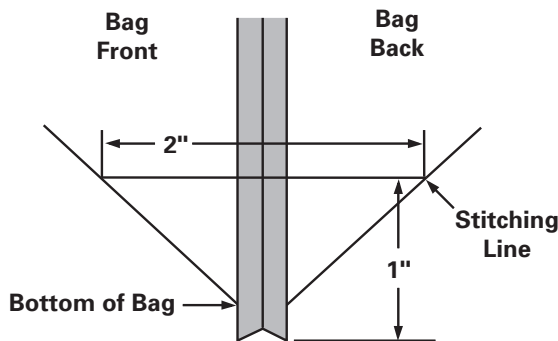

Fig. 7-5
- To make each box corner for the bottom of the bag, make sure the side seam is centered on the flattened corner. Measure up 1 inch (2.5 cm) from the bottom of the seam and draw a 2-inch (5-cm) line across the corner, perpendicular to the seam. (Fig. 7-5) Stitch along the line. Trim the point and press it toward the bottom of the bag.